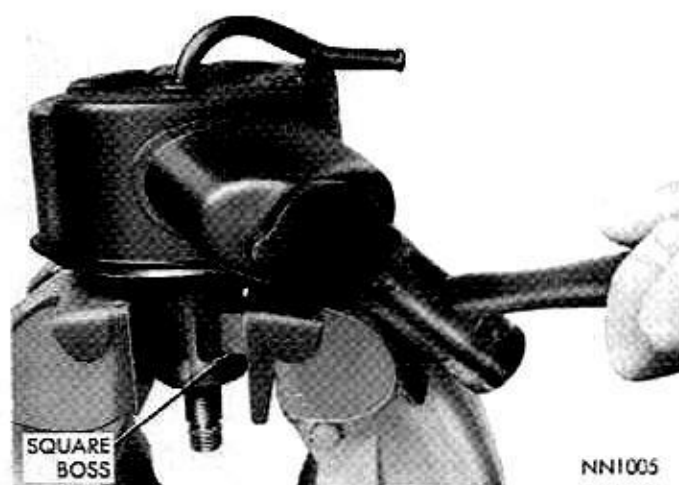

Fig. 6—Removing Reservoir
- (1) Remove pulley retaining nut before loosening power steering pump belts. Remove pump from engine as an assembly.
- (2) Tap pulley off shaft with plastic hammer.
- (3) Remove brackets from pump, drain reservoir and clean exterior of pump with solvent.
- (4) Remove key from drive shaft.
- (5) Using soft protective jaws, clamp pump (shaft down) in vise between square boss and shaft housing (Fig. 6).
- (6) Remove two mounting studs and pressure hose
fitting. Gently tap reservoir filler tube back and forth with plastic hammer to loosen. Work reservoir off pump body (Fig. 6). Discard reservoir, two mounting stud and pressure fitting "O" rings.